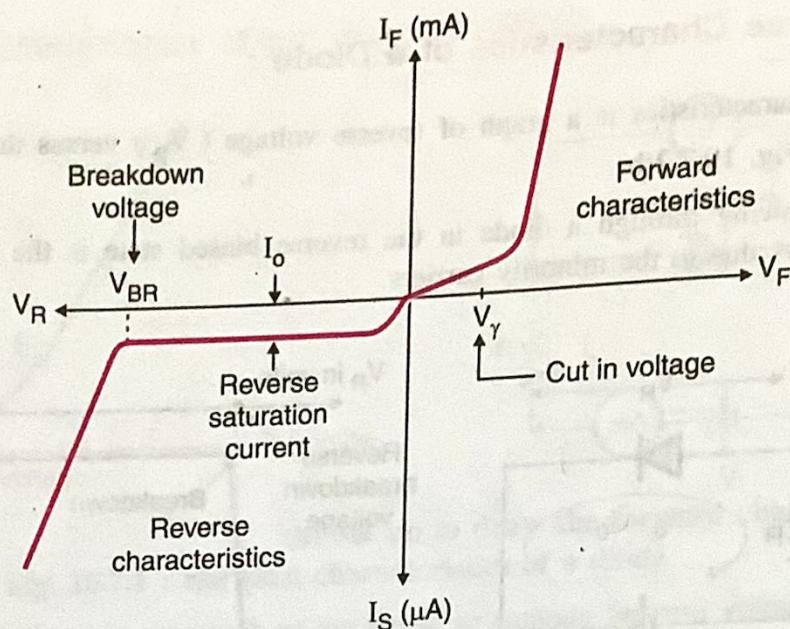

Fig. 10.7.3 : Complete V-I characteristics of a diode
- The complete V-I characteristics is shown in Fig. 10.7.3. It is obtained by combining the forward and the reverse characteristics of the diode.